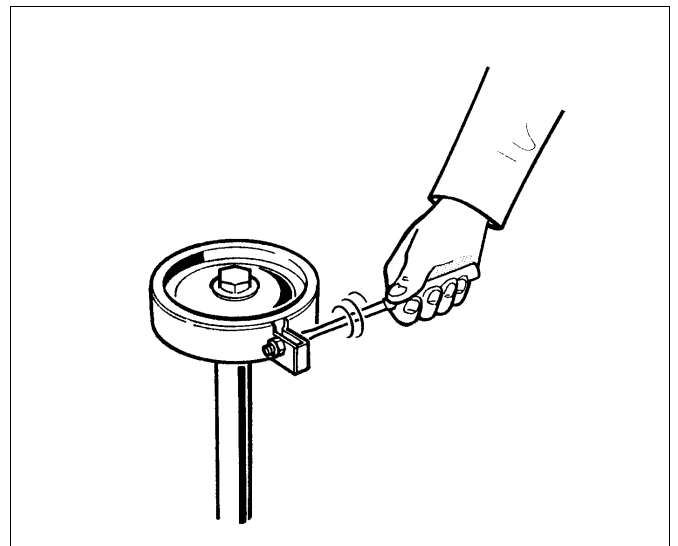

Fig. 3. Using the special tool
2. Open the screws (22) or (42) and detach the cylinder.
3. When changing the piston rings (11) or (36), renew the O-rings (12) or (37) also.
4. The seams of the piston rings should be as far as possible from each other. Use a special tool, see Fig. 3. Tighten the collar around the piston rings. Push the piston with rings through the collar into the cylinder.